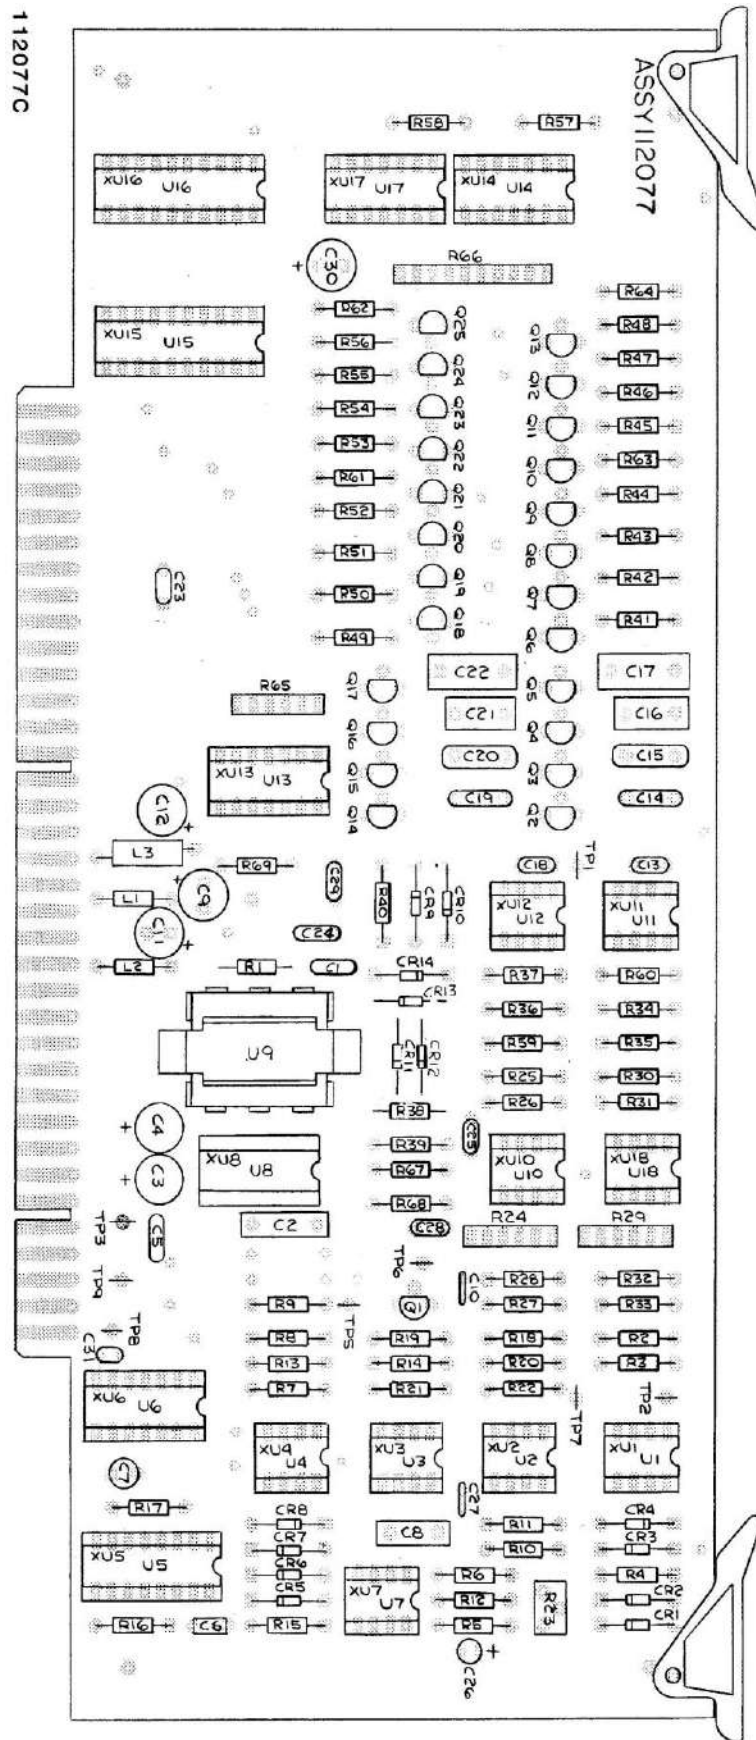

Figure 6-9. PWA '1121A' Source (A6)
**11202703A REV C PWA '1121' SOURCE (A6) (Figure 6-9)**